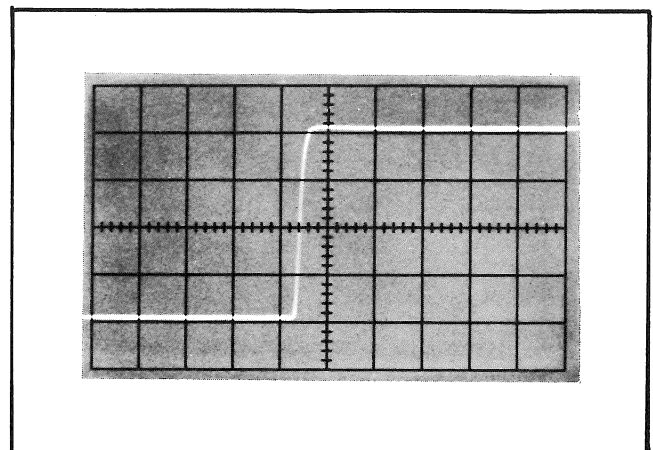

Fig. 5-3. Typical CRT display showing correct high-frequency compensation.
- e. CHECK—CRT display for optimum square-wave response similar to Fig. 5-3 with peak aberrations not to exceed $\pm 2\%$ or -2% , or total aberrations not to exceed 3% peak to peak.